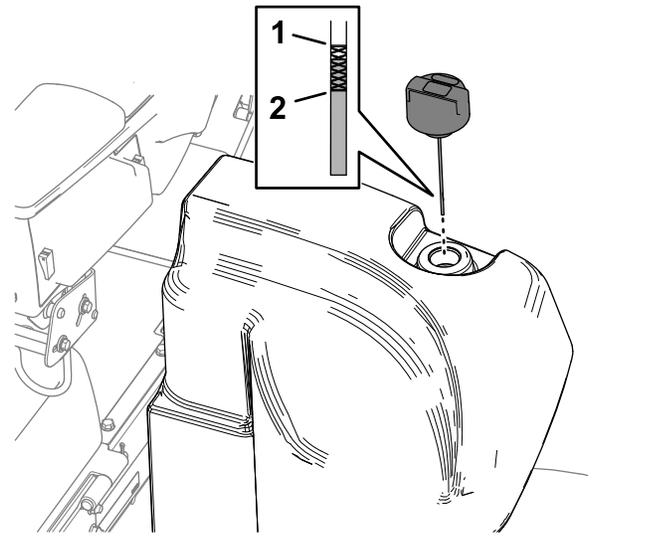

Figure 117
2. Clean the area around the filler neck and the cap of the hydraulic tank (Figure 117).